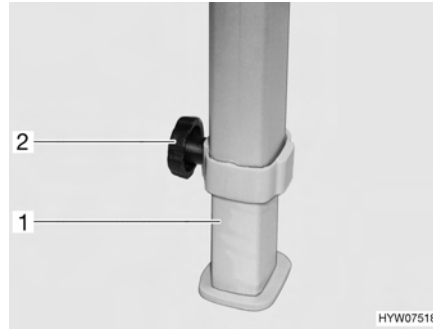

Fig. 26 Height setting suspension table
- Undo the knurled screw (Fig. 26,2).
- Raise or lower the table-top until it is level. In the process the table leg extension (Fig. 26,1) slides out or in.